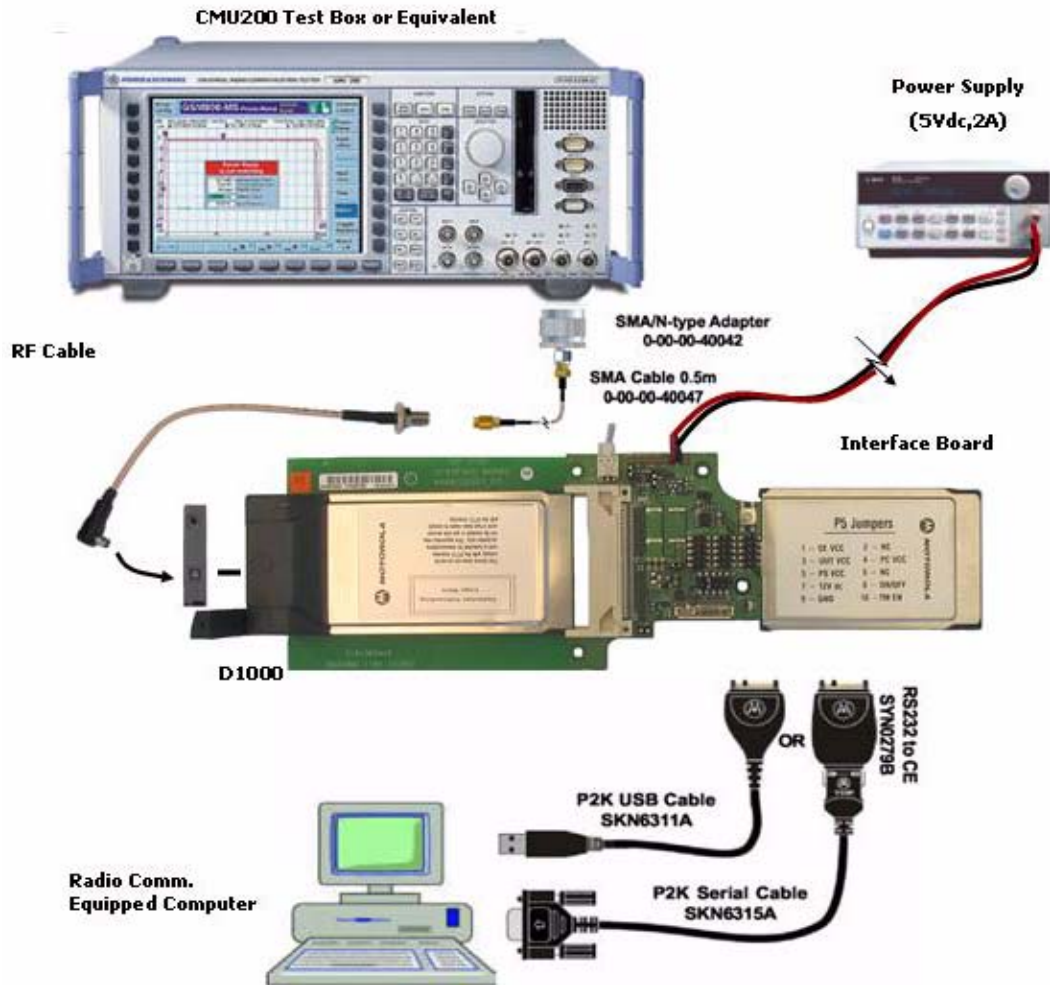

Figure 16. D1000 Manual Test Hardware Configuration
2. Connect hardware as shown Figure 16.
1. Connect as shown in Figure 16.
Refer to “Hardware Requirements” section 6.2.1. Also Refer to Figure 16.
Refer to “Hardware Requirements” section 6.2.1. Also Refer to Figure 16
2. Connect hardware as illustrated in Figure 16.